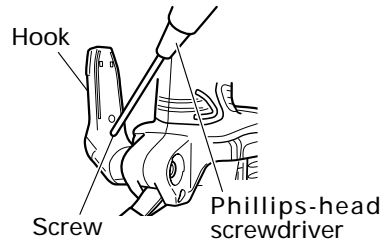
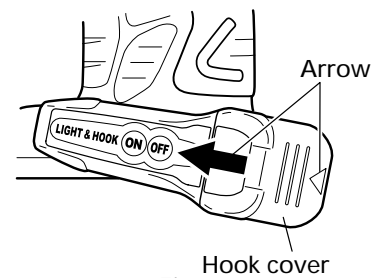

Fig. 11
Fig. 12
- (1) Loosen the hook screw with a phillips-head screwdriver (No. 1) (Fig. 11). Remove the hook cover by pushing in the direction of the arrow (Fig. 12).
- (3) Align the indentation in the hook main body with the protuberance of the hook cover, press the hook cover in the direction opposite to that of the arrow shown in Fig. 12 and then tighten the screw.